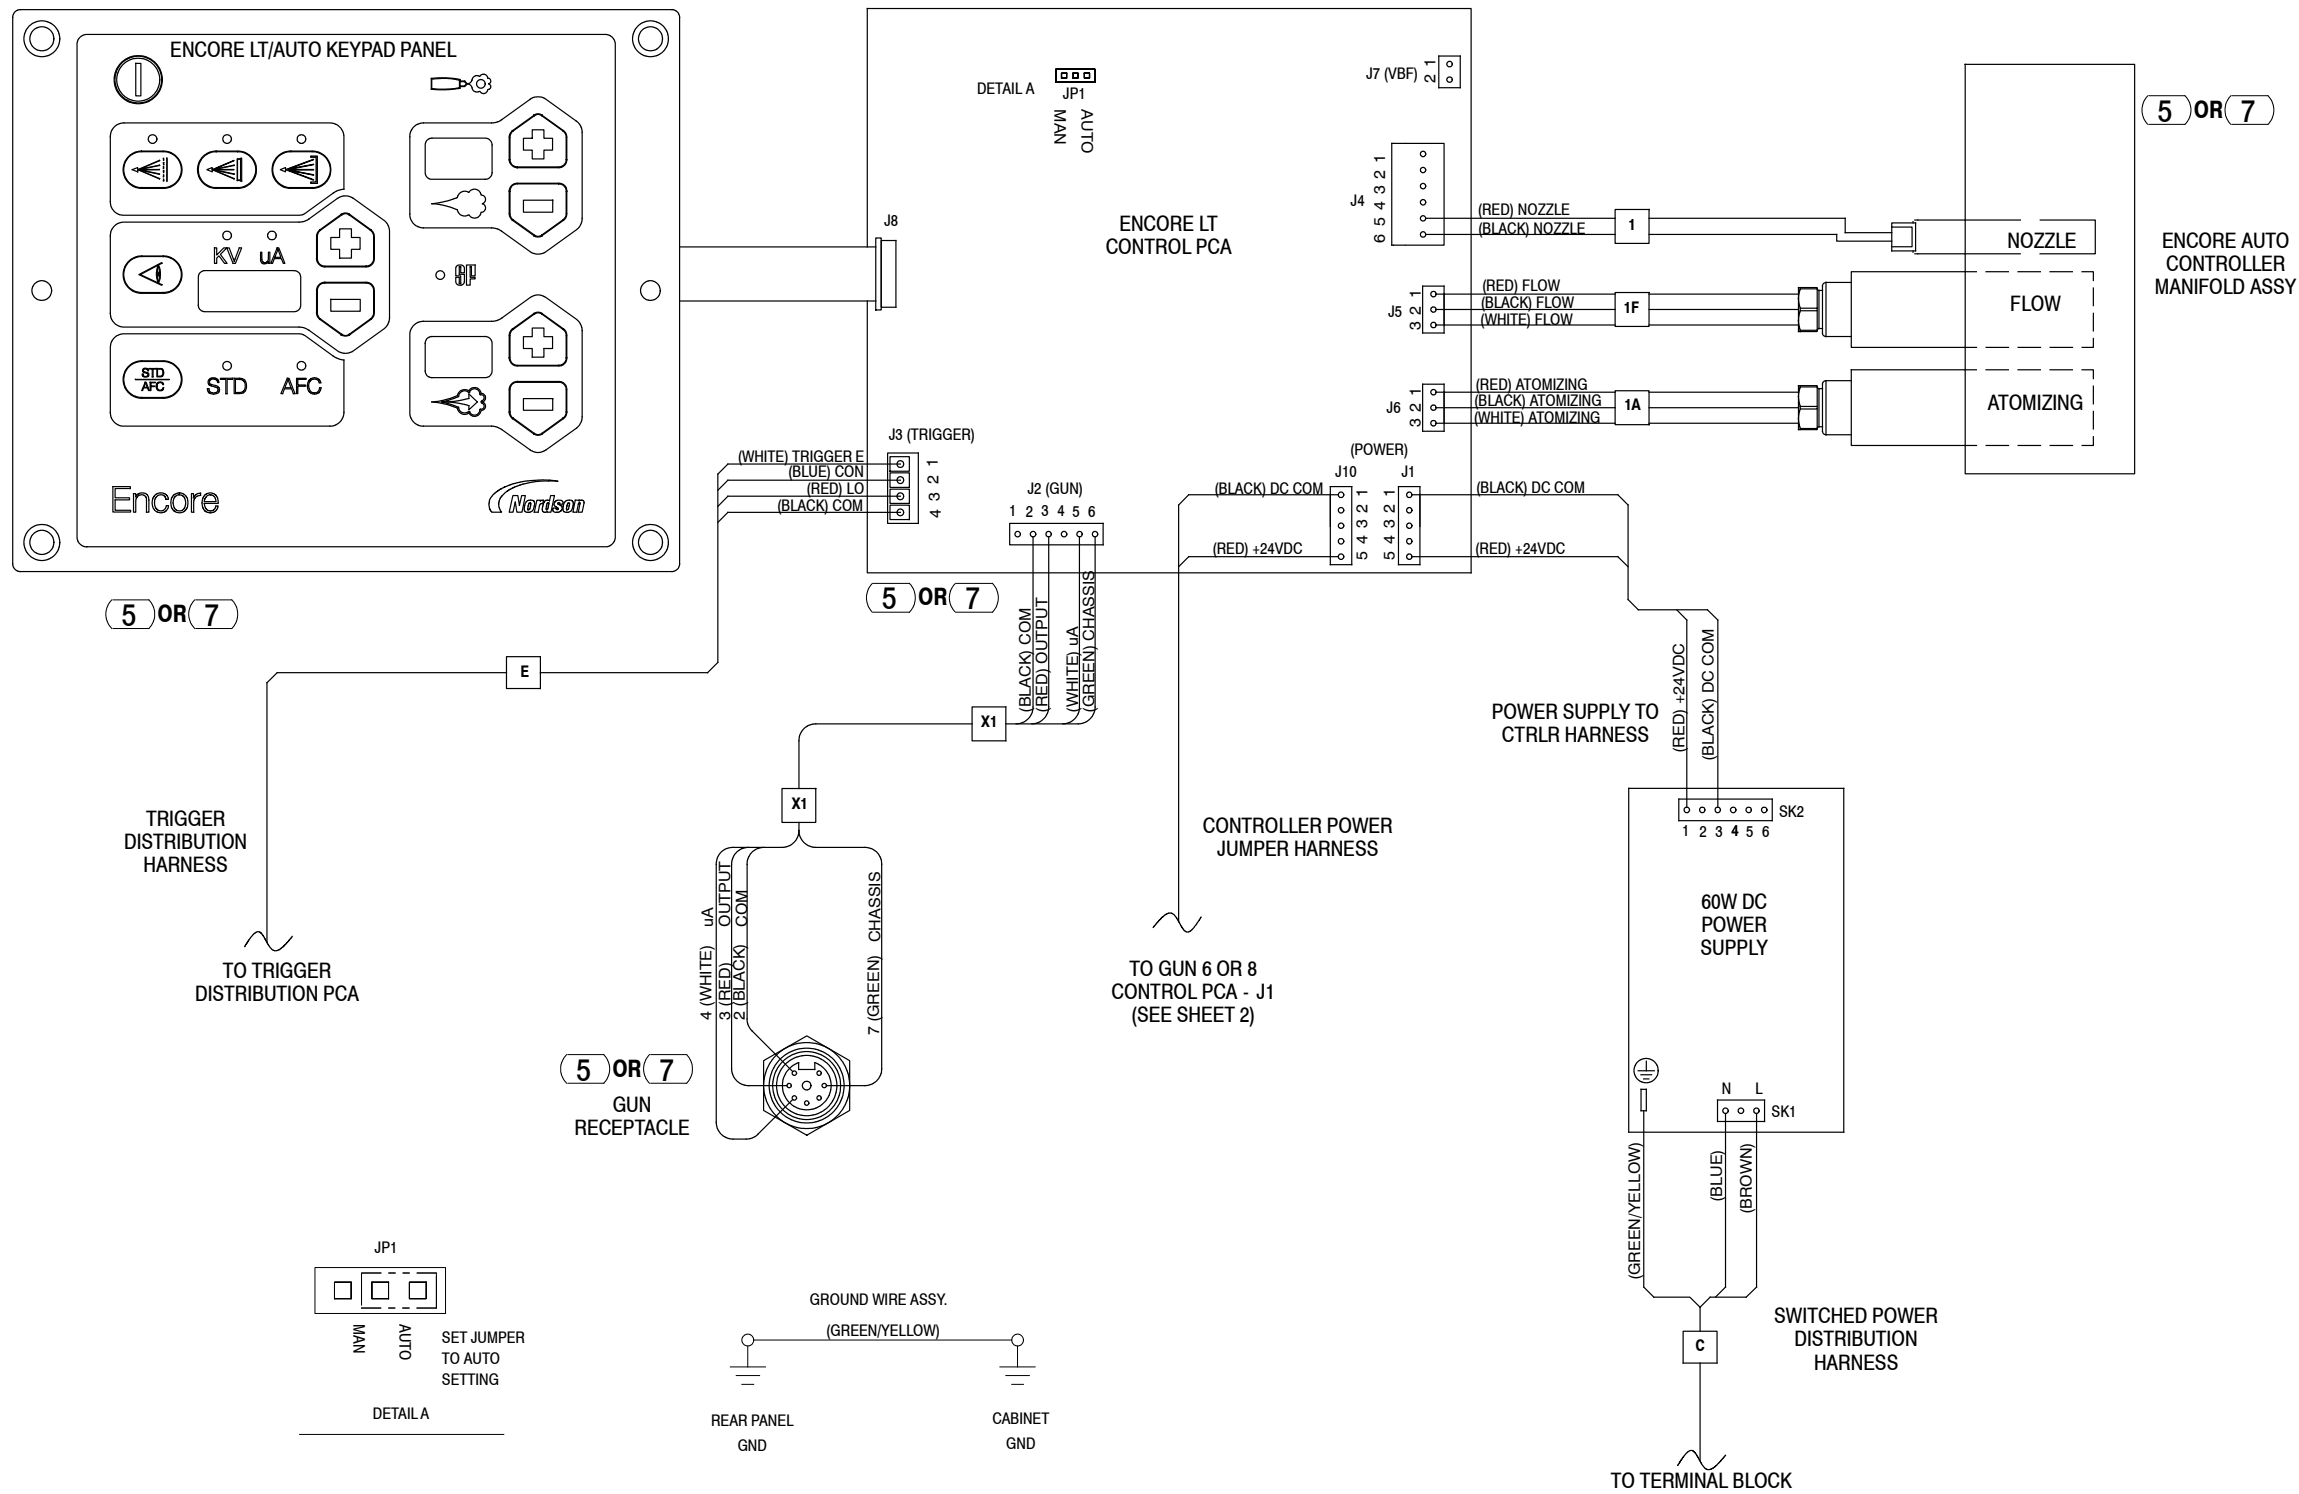

Figure 6 Main Gun Controller Wiring Diagram (1 of 2)
7. See the schematics in Figures 6 and 7 to connect the DC power, valve, gun receptacle, and regulator harnesses to each PCA.